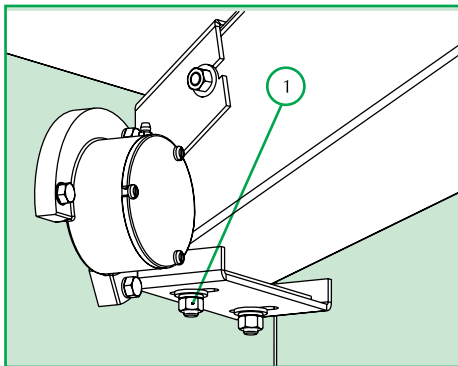

Fig. 1
Adjust the counter cutting blade by loosening the 2 fixing screws (1) as in figure 1. Displace it until the cutting blades pass the counter cutting blade (figure 2) at a distance of approximately 1.5mm. The counter cutting blade shall be sharpen when worn out. Periodic tightening is imperative.